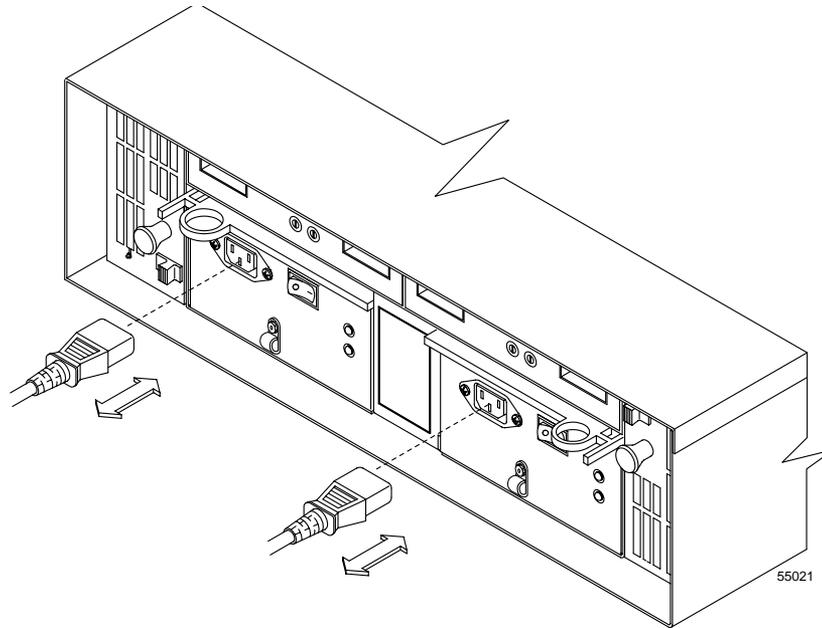

Figure 8-15 Connecting the Drive Enclosure Power Cords
5. Plug the drive enclosure power cords into each power supply in the drive enclosures (Figure 8-15).